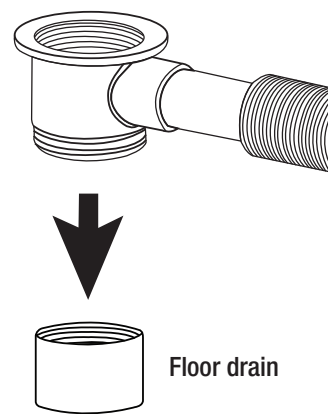

Fig. 3
- Install the main drain/overflow (7) assembly onto the floor drain. See Fig. 3.